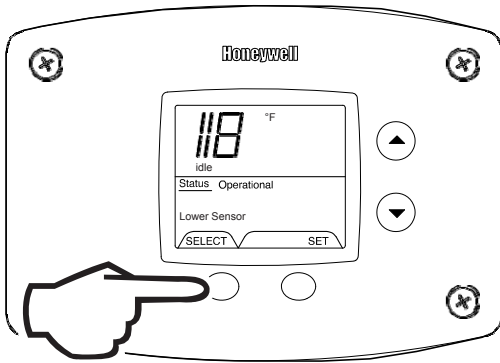

Fig. 47
- For water heaters using two temperature sensors, pressing the 'Select' button again displays the Lower Sensor temperature reading. 'Lower Sensor' will be displayed in the lower left side of the status window of the water heater display (Fig. 47).